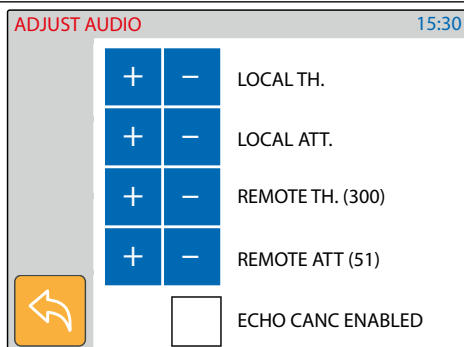

Fig. 17 Adjust the speech for the selected door panel
- Select the door panel to connect to then tap the tick button to open the communication (**Fig. 17**).